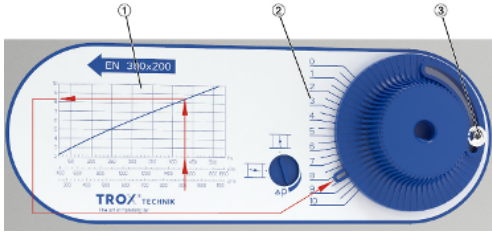

Fig. 15: Setting the volume flow rate
- ▶ Using the volume flow rate scale (Fig. 15/1), determine the setting value (1-10) for the desired volume flow rate (l/s, m³/h, or cfm).
- ▶ Loosen the hexagon socket screw (M5x12/ size 3) (Fig. 15/3).
- ▶ Set the rotary knob to the determined value of the setting scale (Fig. 15/2) and fix it with the hexagon socket screw (Fig. 15/3).